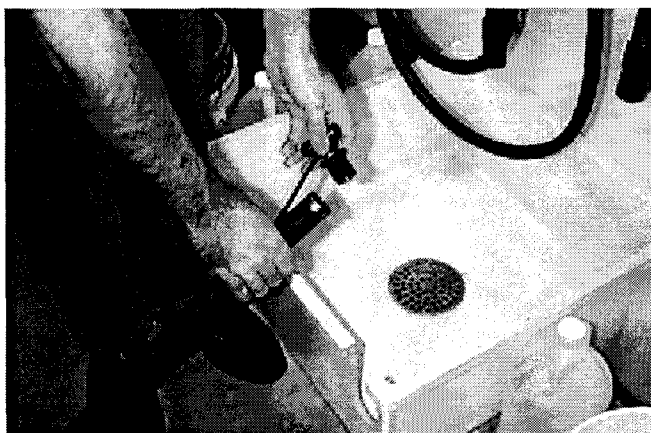

FIG. 19.
3. Remove drain hose from holder, position hose over floor drain and twist off drain hose plug to drain. (Figure 19)